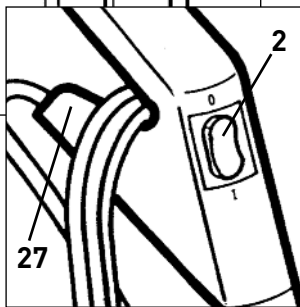

Figure 2
2. Release the power cord plug from the power cord and lift the cord off of the upper cord hook (27 - figure 2).
3. With the switch (2) in the "0" (OFF) position (figure 2), plug the polarized power cord into a 120 volt outlet located near the floor.